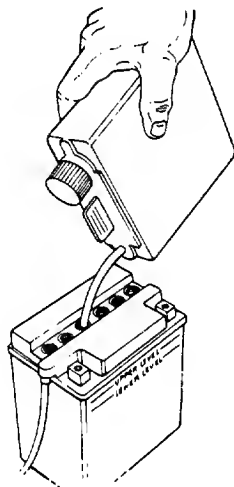

FIGURE 3.
6. Fill each battery cell slowly and carefully to the UPPER LEVEL line marked on battery. See figure 3. Use caution as the acid level will rise rapidly after the bottom of the cell is filled.